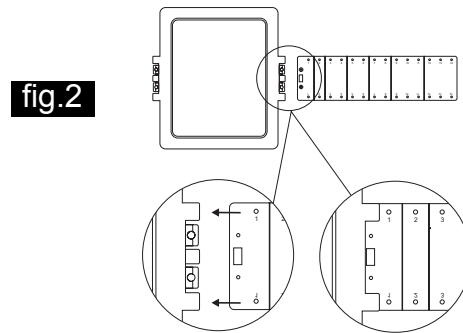

fig.2
1. Begin by installing the iWB mounting bracket between adjacent studs. NHT in-wall loudspeakers should only be used in the vertical orientation (**fig.5**). Attach the mounting wings to the bracket by inserting them into the locking plastic tabs in the side of the bracket (**fig.2**).